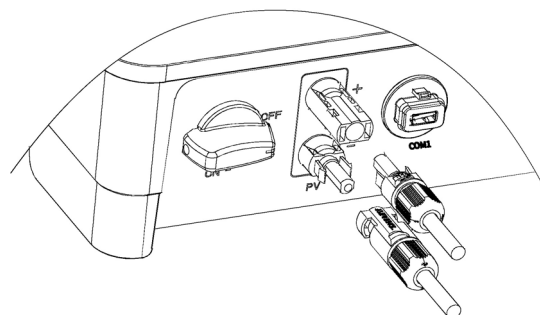
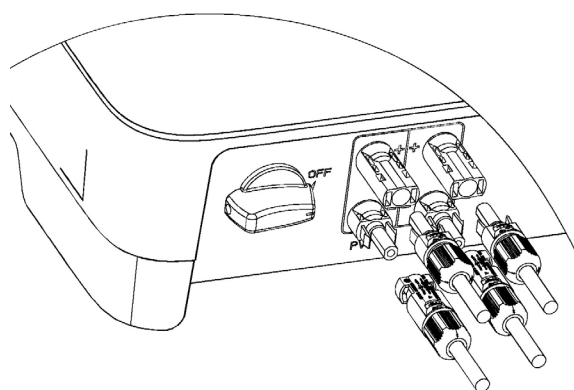

Fig. 24. Connecting the DC input terminals of units with 1 MPPT.
Fig. 25. Connecting the DC input terminals of units with 2 MPPTs.
- Insert the positive and negative connectors into the respective DC input terminals of the inverter. If the terminals are properly connected, they will make a clicking sound, as shown in Fig. 24 and Fig. 25: